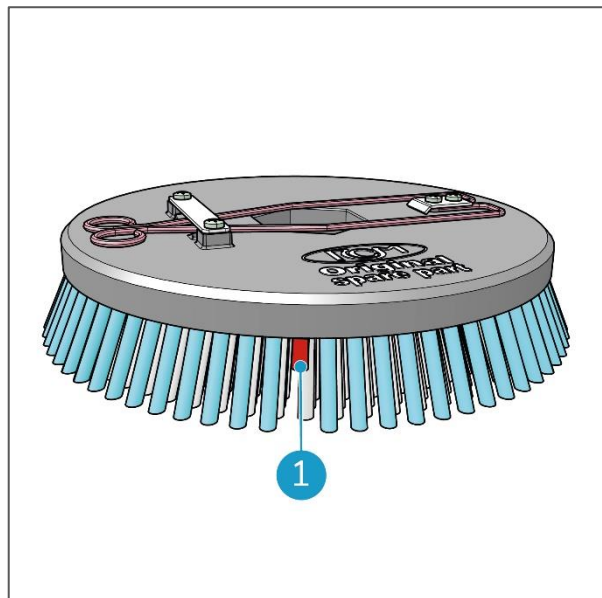

Figure 9
Make sure to check the condition of the disc brush before use. Check the red indicator mark before you start (Figure 9, pos 1). See section 7.4.4. Make sure the machine is completely turned off when replacing the disc brushes.